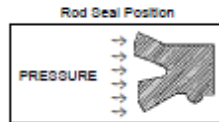
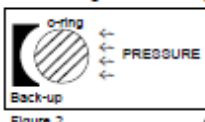

Figure 1.
Figure 2
2. Clamp rod end mount (6) in vise and fully extend cylinder. If there is no mount. Protect rod threads while clamping.
3. Remove the 4 tie bolt nuts (7) on gland end and un-thread the bolts from the base end.
4. Remove the base (5) and slip the tube off of the gland (3) if necessary, gently tap the gland and base with a rubber Mallet to loosen.
5. Remove piston nut (13) and slip piston (4) and gland off rod (1) drive piston off with gland. Remove gland from the piston end of the rod.
9. Install new seals (15) (16) (18) & (19) in gland taking care to position the I. D. U-cup (15) toward the pressure as shown in Figure 1.
10. Install piston seal & energizer (17) and internal o-ring (20) into piston.
11. Install o-ring (18) and back-up (19) on the base. See Figure 2 for o-ring/back-up orientation.
13. Torque piston nut (13) according to Table #1. Lube gland & piston seals.